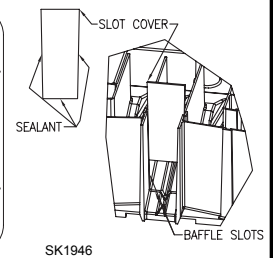

Figure 4.2
- 4.3) **Apply RTV Silicone or PVC cement** to the bottom and sides of the necessary slot cover. See Figure 4.2.
- 4.4) Place slot cover into baffle slot. **Apply additional RTV Silicon or PVC cement** as needed along edges. See Figure 4.2. Repeat steps 4.3 & 4.4 for each required slot cover.